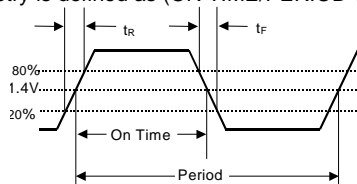
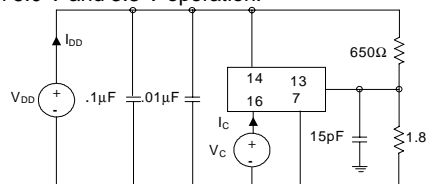

Figure 2. Output Waveform
Figure 3. OUT1, OUT2, RCLK, RDATA Test Conditions (25±5°C)
2. Figure 2 defines these parameters. Figure 3 illustrates the equivalent five gate TTL load and operating conditions under which these parameters are tested and specified. Loads greater than 15 pF will adversely effect rise/fall time as well as symmetry.